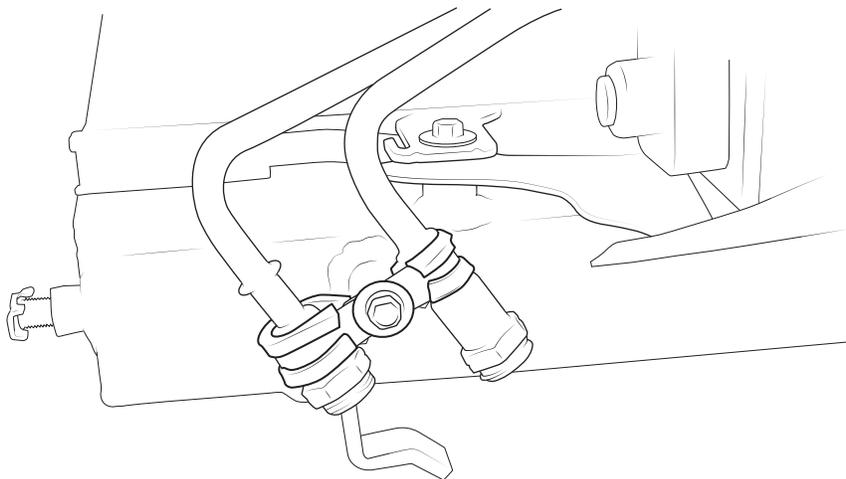

Figure 32
7. Install the AC condenser/transmission oil cooler/steering cooler assembly onto the supplied AEV Hemi radiator using the factory hardware and supplied p-clips, and petcock (fig 32).